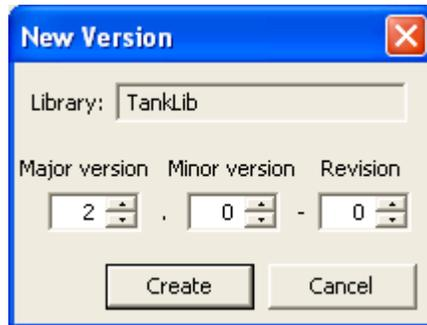

Figure 46. New Version dialog box
3. Click **New Version** button. A 'New Version' dialog box opens (Figure 46).